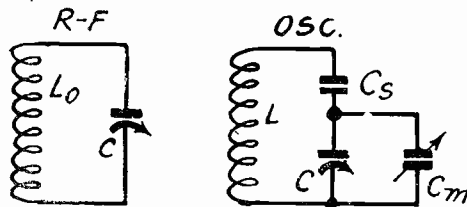

FIG. 1
While the simple instrument depicted in Fig. 1 is not exactly a tangent galvanometer its construction is similar, and it can be used for detecting minute direct currents. It is also so simple that any one can make it without trouble and at very little cost. The large circle is of wood with a groove for wires on the outside. Its diameter is one foot. The simplest way of getting such a form is to take an embroidery hoop and remove the felt "tire," leaving a groove just sufficient for the turns.
IN Case II the condensers are disposed as shown in Fig. 1. C_m is assumed to be across the variable condenser alone. It is assumed further that C is the same in both circuits at all settings. This assumption is not strictly true for several reasons. The capacity C is made up of the capacity of the coil, the capacity of the variable condenser, and the input capacity of the tube. The trimmer capacity across C is supposed to be an integral part of C . In the oscillator circuit neither the tube nor the coil capacity is directly across C because C_s is interposed between. Moreover, the capacity of the oscillator coil will in general be different from the corresponding capacity in radio frequency circuit and the tube capacities will also differ to some extent.
Formulas (3), (4), and (5) are general expressions that may be applied to any case of padding in which the condensers are arranged as in Fig. 1. In numerical computation a high degree of accuracy is necessary. This does not apply so much to C_m as it does to C_s and L . C_s in particular requires accuracy because of the fact there is a difference between two nearly equal terms in the denominator of equation (4). A small error in either term will introduce a large error in C_s , and since C_s is contained as a factor in (5), there will also be a large error in L . It has been found that the accuracy required is at least that obtainable with five-place logarithms.